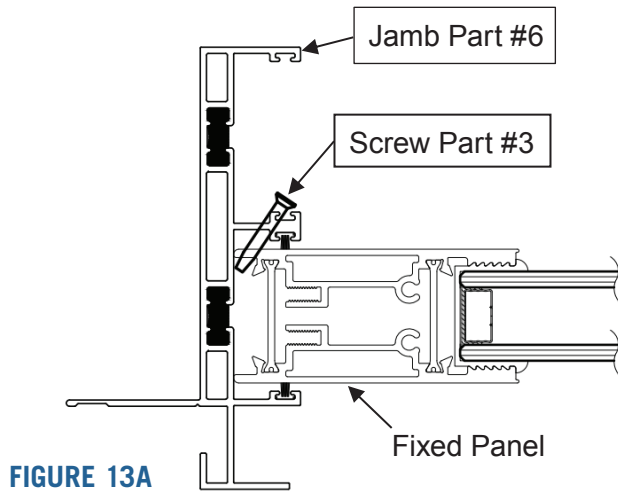

FIGURE 13A
16. Secure fixed panel to the frame with the 2 screws (Part #3) provided in the hardware box (use sealant to lubricate screws). Screw through the pre-drilled holes in the center weather strip track of the jamb at 24" above the sill and 24" below the head as shown in Figures 13a and 13b. For false jamb installation, see Appendix A.